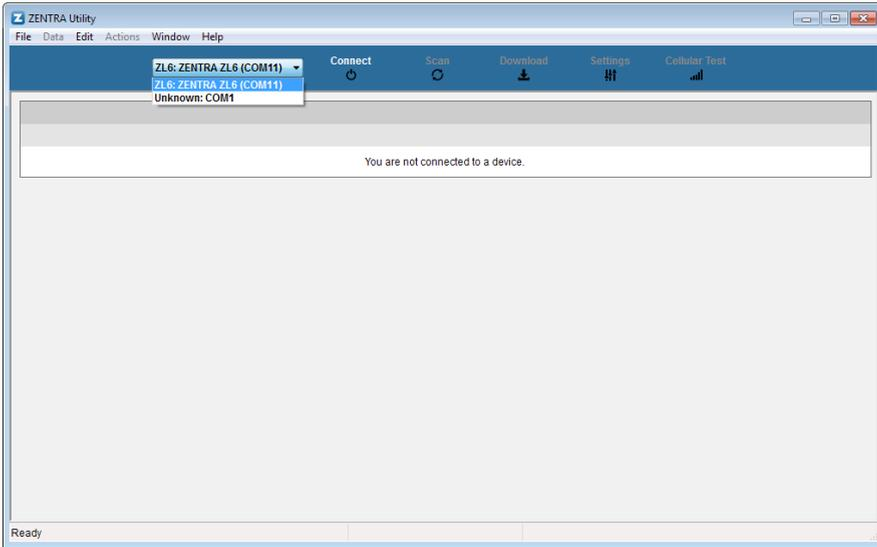

Figure 2 COM port dropdown
3. On the ZENTRA Utility main screen, select the appropriate COM port from the dropdown menu (Figure 2). If the logger designation does not appear, try a different port or cable.
4. Click the Connect button next to the COM port dropdown menu (Figure 2). Once successfully connected, ZENTRA Utility displays the instantaneous sensor measurements from the ZL6 (Figure 3).